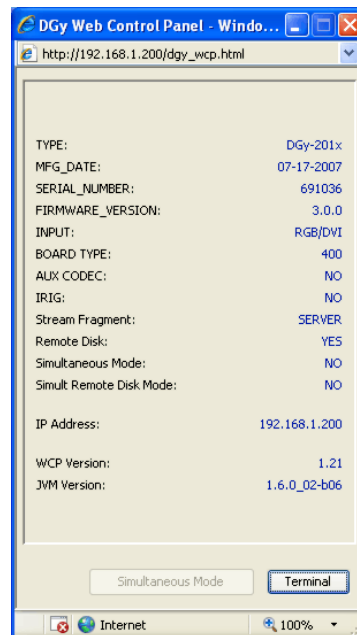

Figure 3-22 DGy WCP Configuration Page
- ~ Locate the DGy Web Control Panel Configuration Page that opens automatically when the *DGy 201x* WCP is launched (Figure 3-22).